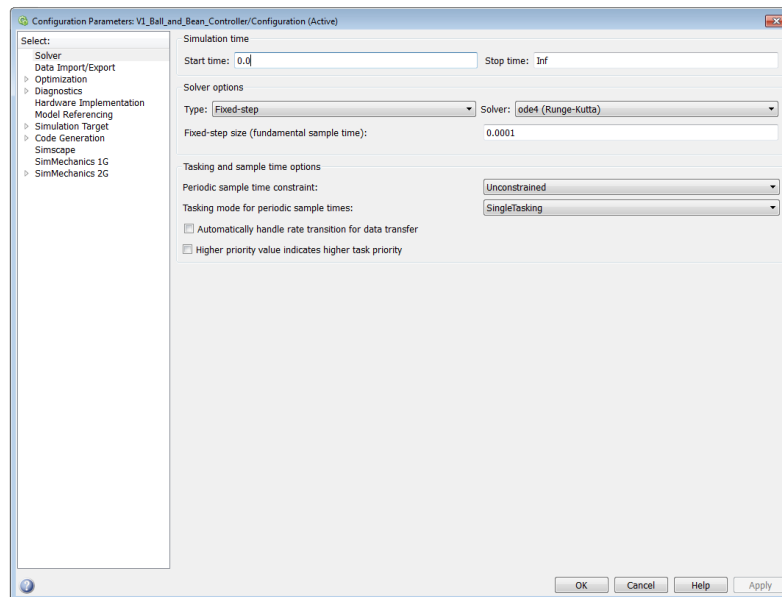

Figure 21: Configuration of integration step
2. Some parameters must be adjusted before importing the model to ControlDesk. First, the solver and step time must be configured. To do so, click on the 'Simulation' button, and click on the option 'Model Configuration Parameters', which will open a new dialog window, as the one seen in figure 21. In 'Solver Options', select the type 'Fixed-step' and select the solver 'ode4 (Runge-Kutta)'. In the option 'Fixed-step size (fundamental sample time)', a value must be entered such as it allows to have a good resolution of data capture, for this project, a value between 0.001 and 0.0001 is admissible.